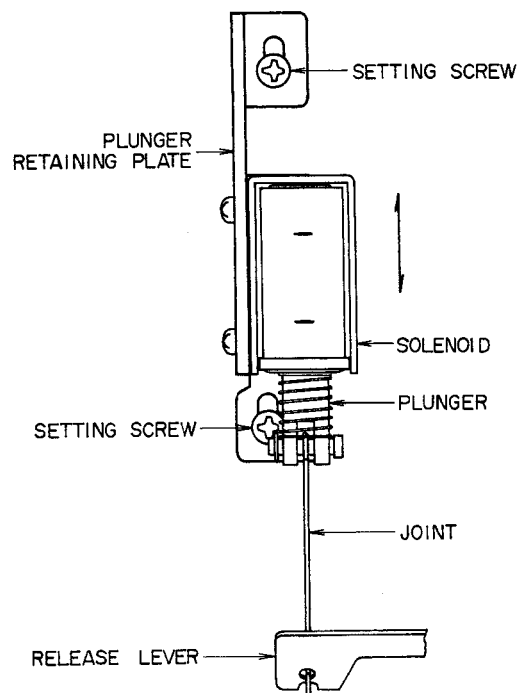

Fig. 9
7. AUTO STOP PLUNGER SOLENOID POSITION ADJUSTMENT (Refer to Fig. 9)